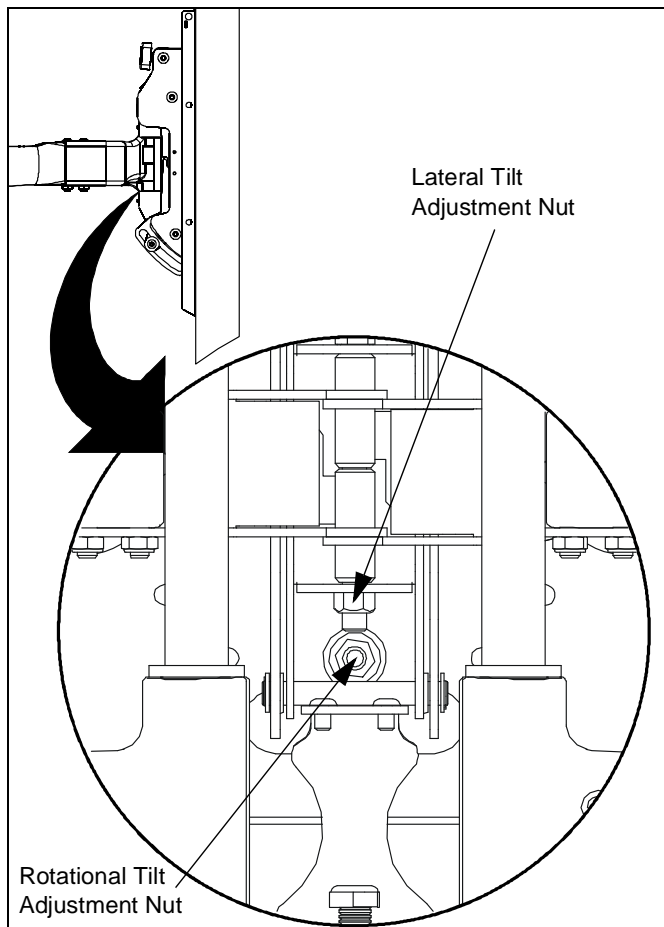

Figure 10
1. Using a 9/16" wrench (not provided), slightly tighten or loosen lateral tilt tension adjustment nut. (See Figure 10)
1. If necessary, loosen or tighten bottom rotational tilt tension adjustment nut. (See Figure 10)